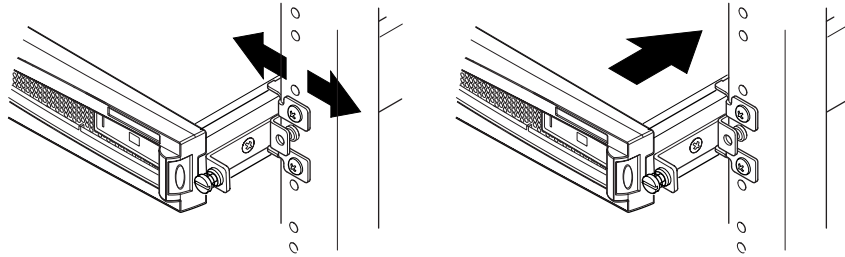

FIGURE 2-8 Adjusting the Slide Mounts and Screwing the Server Into the Rack
8. **Align the thumbscrews on the sides of the server with the slide mounts in the rack (see FIGURE 2-8).**